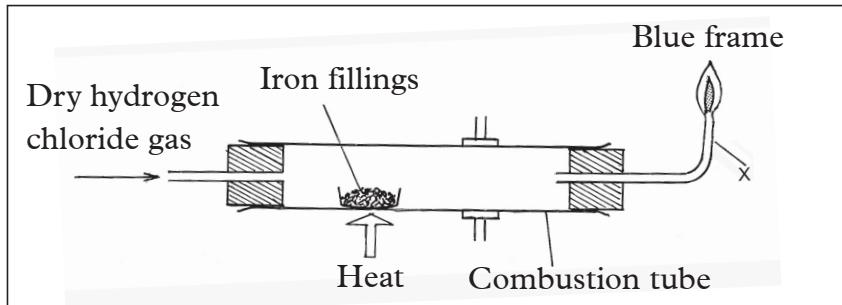

Fig 4.15: Reacting metals with hydrogen chloride
- Set up the apparatus as shown in fig 4.15.